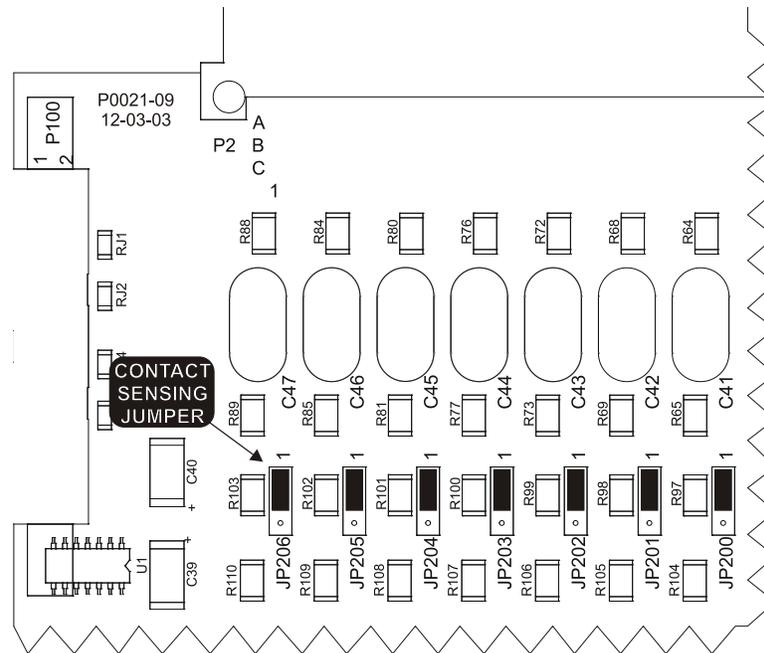

Figure 25. Contact Sensing Jumpers Location
2. Locate the seven jumper terminal blocks (JP200 through JP206) that are mounted on the Logic Circuit Board. The jumper terminal blocks are located on the component side of the circuit board near the left hand side (right-hand side when looking at the unit from the rear). Each terminal block has three pins and each jumper is installed at the factory on pins 1 and 2. Figure 25 illustrates the location of jumpers placed for operation in the lower end of the control voltage range.